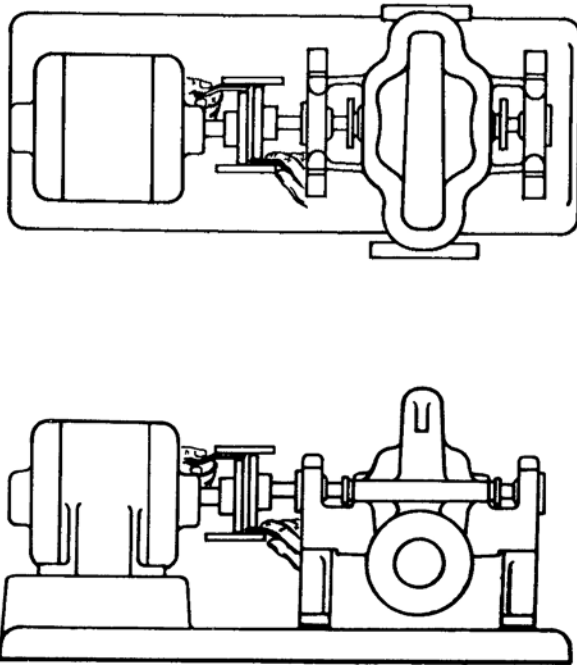

Figure 4:
6. Check parallel misalignment - shaft axes parallel but not concentric-by laying straight edge across both coupling rims at top, bottom and both sides. See Figure 4: on page 12.